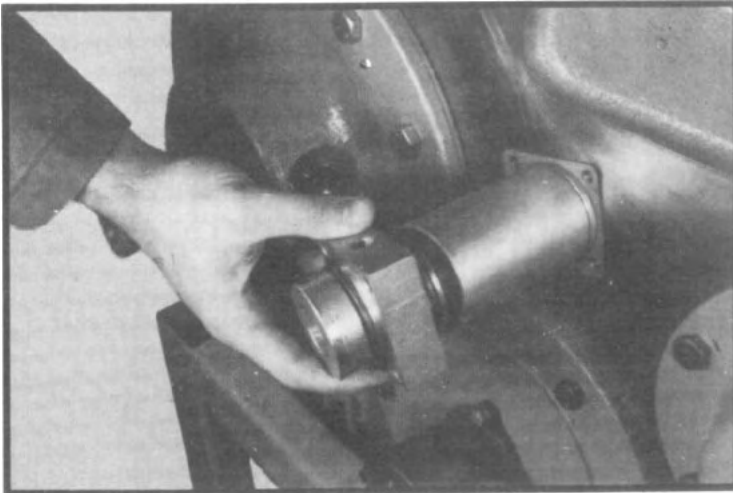

Fig. 200
12. Install o-rings in neutral adapter tube and insert tube into cylinder. (See fig. 200)